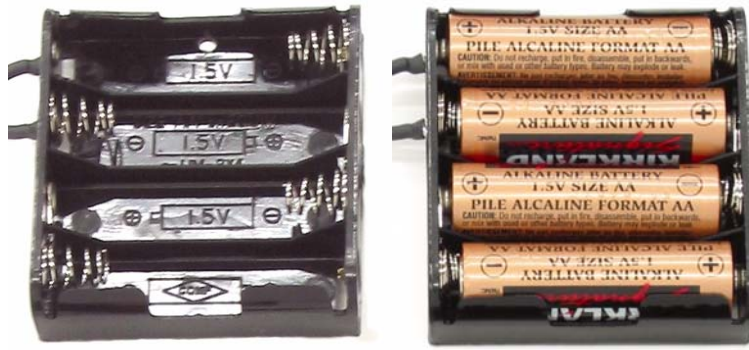

Figure 1-23
- ✓ Load the batteries into the battery pack as shown in Figure 1-23. Make sure to follow the polarity (+ and -) markings on the inside of the battery pack's plastic case when inserting each battery.